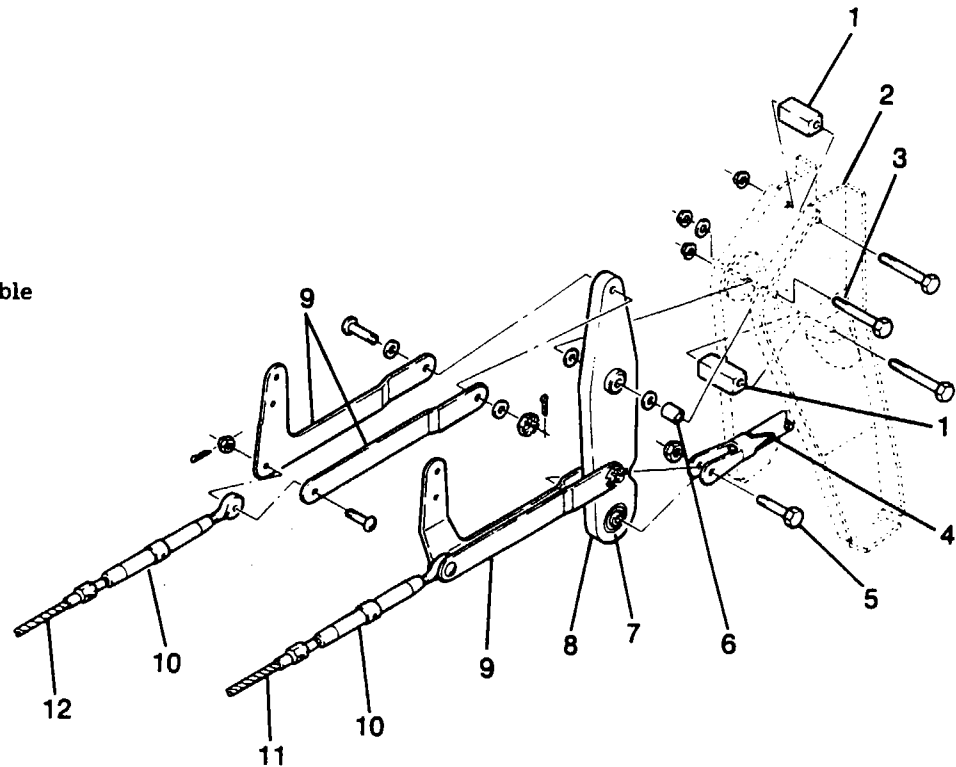

Figure 8-3. Elevator Bellcrank Installation
8-8. BELLCRANK. (Refer to figure 8-3.)
- b. Remove safety wire and relieve cable tension at turnbuckles (9).
- c. Disconnect cables at control column arm assemblies (3) and disconnect balance weight (5).
- d. Disconnect cables at bellcrank links (item 9, figure 8-3).
8-14. RIGGING. (Refer to figure 8-3.)